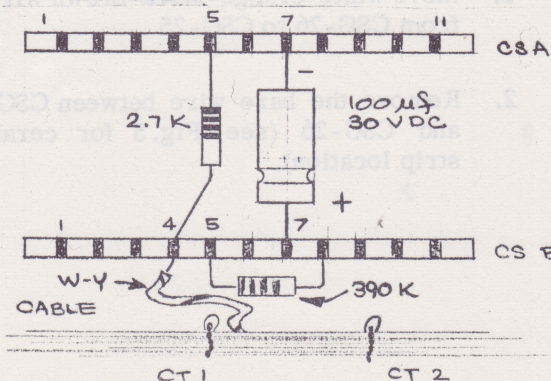

FIG. 3
2. Install the following components and wires, as indicated in Fig.3: